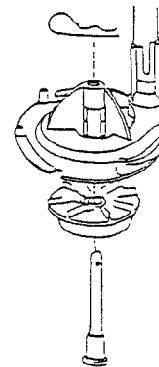

Figure 5
3. Push the impella support pin through the impella and up through the center hole of the pump housing. Insert retaining clip. (See Fig. 5)